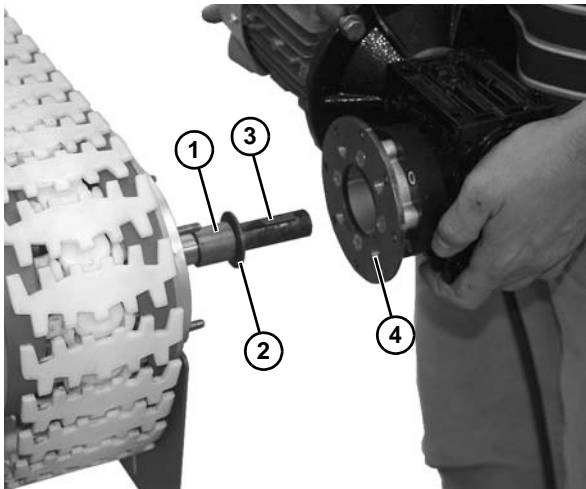

Figure 14
1. Install spacer (when applicable) (Figure 14, item 1), washer (Figure 14, item 2), and key (Figure 14, item 3) onto drive shaft.
2. Attach the motor (Figure 14, item 4) onto the drive shaft.